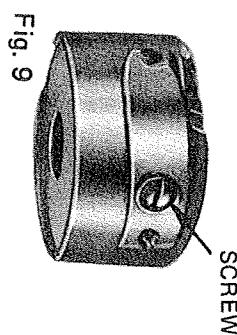

Fig. 8
- 1) Turn serrated nut (N) (Fig. 8) on the tension device to the right to increase tension and to the left, if you desire to decrease it.
- 2) Turn the tension stud (S) to the right to make the check spring (C) more tight and to the left, if you desire to make it more loose.